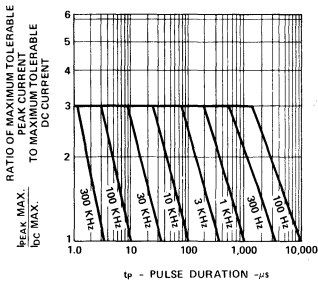

Figure 5. Maximum Tolerable Peak Current vs. Pulse Duration. (Idc MAX as per MAX Ratings)
1. See Figure 5 (Red), 10 (Yellow), or 15 (Green) to establish pulsed operating conditions.